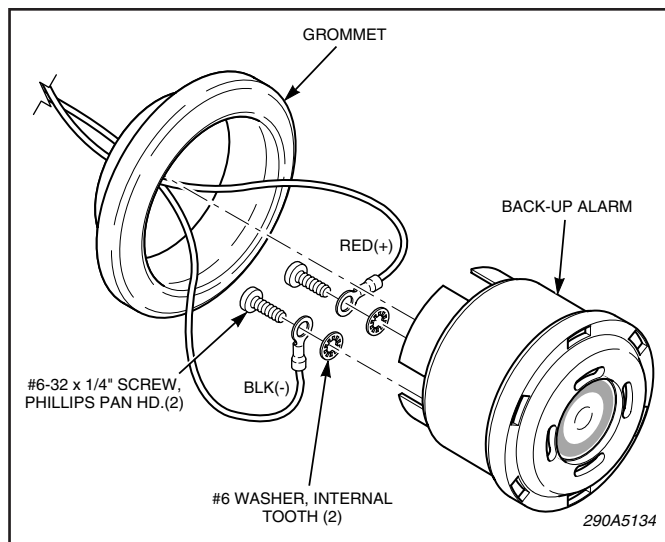

Figure 1.
B. *Electrical (see figure 1).*